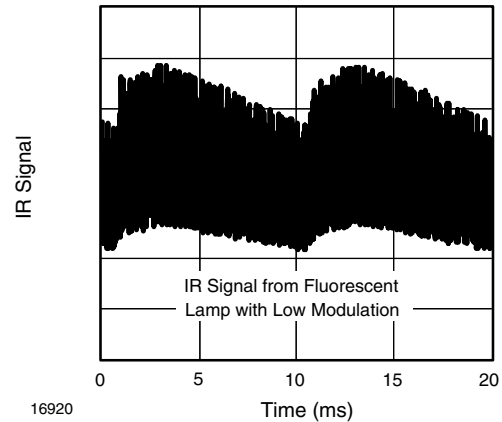

Fig. 14 - IR Signal from Fluorescent Lamp with Low Modulation
- Signals from fluorescent lamps with electronic ballast with high or low modulation (see figure 14 or 15)